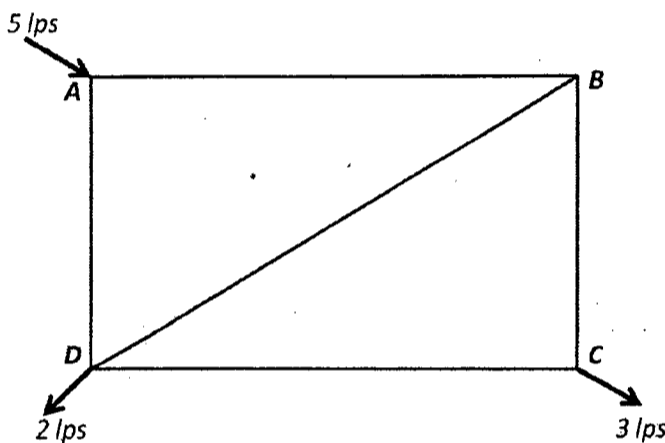

Figure 1
- (d) What is Non Revenue Water (NRW)? What are the benefits of reducing NRW? (5)
2. (a) Write short notes on (i) Water hammer (ii) External corrosion (iii) Shallow Shrouded Tubewell (SST) (iv) Salinity intrusion in coastal areas. (12)
- (b) What factors should be considered for selecting a site for raw water intake structure? (5)
(c) Calculate the flow in the following pipe network for the inflow and outflow shown in Figure 1 using Hardy Cross method. Use Williams formula for  $C = 120$  to compute the headloss [ $h_L = 1.59 \times 10^6 Q^{1.85} D^{-4.87}$ ;  $Q$  in lps,  $D$  in mm,  $h_L$  in m/m]. The pipe details (as well as the first assumption of flow) are given below. Perform two iterations. (18)